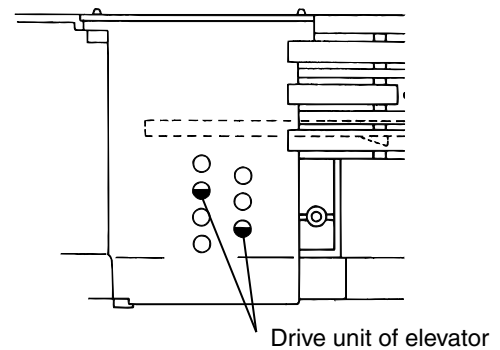
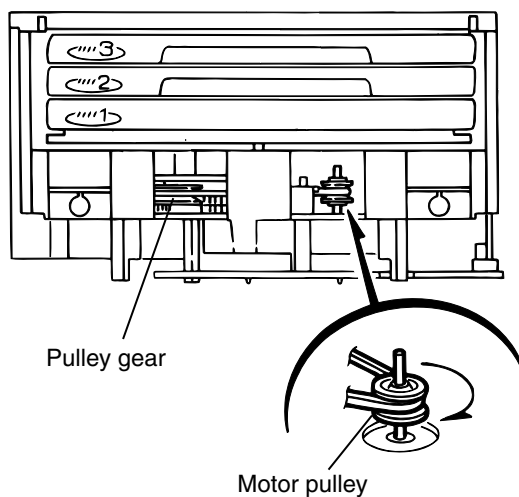

Fig.7
Fig.8
**[Caution]** In case the driver unit elevator is not at above position, set the elevator to the position as shown in Fig.7 by manually turning the pulley gear as shown in Fig.8.
13. Manually turn the motor pulley in the clockwise direction until the lifter unit stopper is lowered from the section e of DVD tray assembly (See Fig.8).